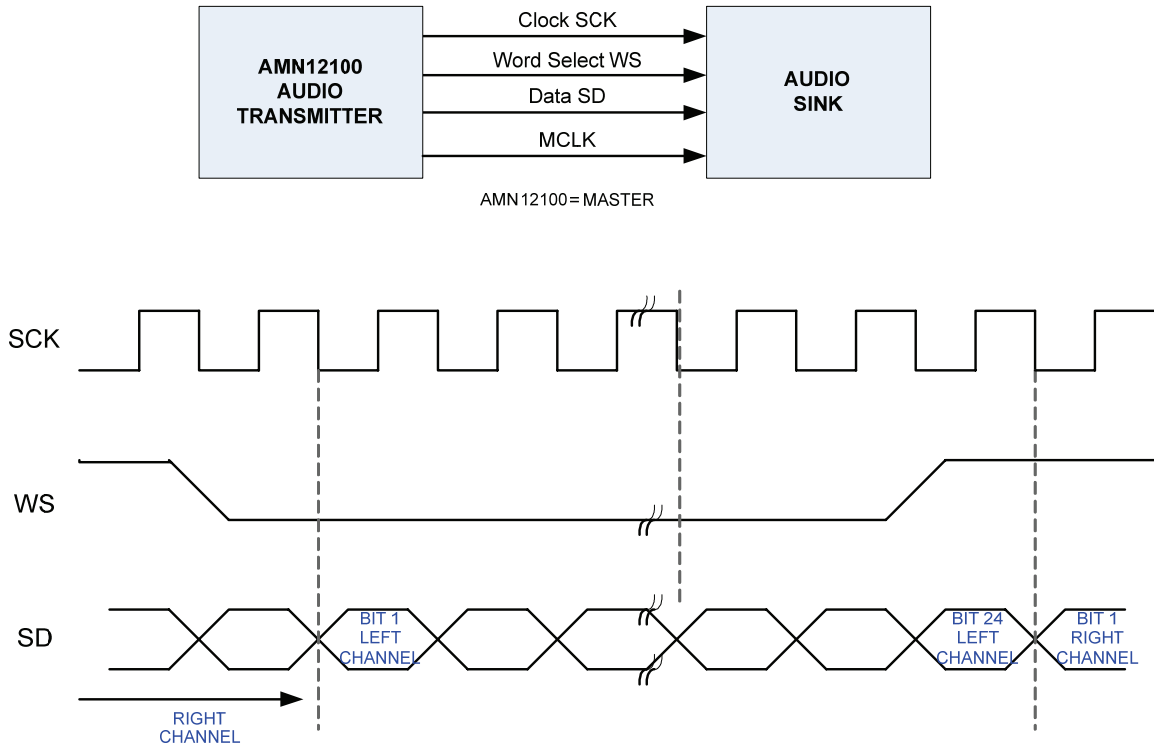

Figure 5: I²S Simple System Configurations and Basic Interface Timing
The AMN12100 supports a standardized communication structure inter-IC sound (I²S) bus. As shown in Figure 5, the bus has three lines: continuous serial clock (SCK), word select (WS) and serial data (SD). In addition, it has a MCLK signal which is synchronized to and a multiple of the WS. The external device generating SCK and WS is the AMN12100.